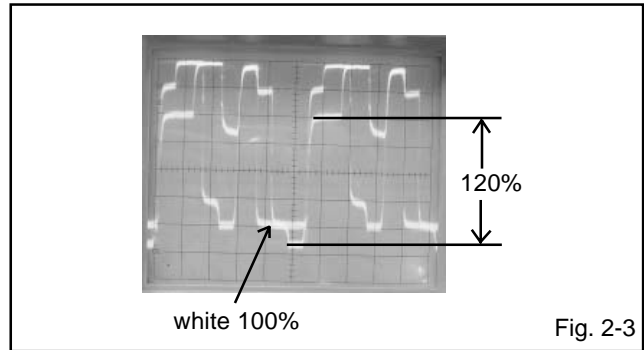

Fig. 2-3
6. Press the VOL. UP/DOWN button on the remote control until the red color level is adjusted to $120 \pm 5\%$ of the white level. (**Refer to Fig. 2-3**)